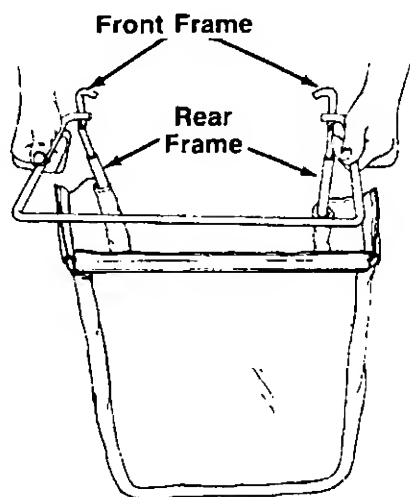

FIGURE 10.
2. Slide the ends of the front frame assembly into the ends of the rear frame as shown in figure 10.